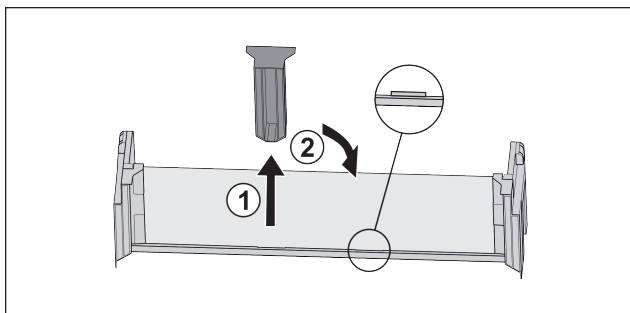

Fig. 20
- Pull off the middle holder Fig. 20 (1).
- Insert the middle holder in the second position Fig. 20 (2).